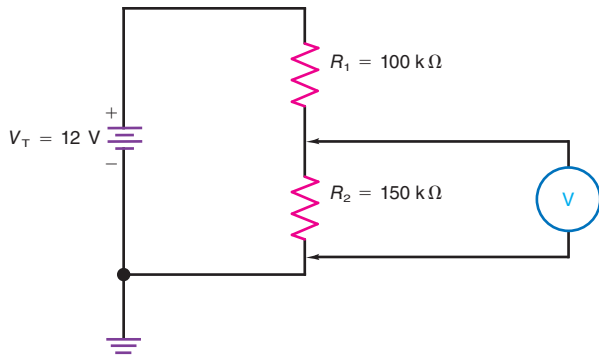

Figure 12-24
- 12.8 Refer to Fig. 12-24. (a) Calculate the dc voltage that should exist across R_2 without the voltmeter present. (b) Calculate the dc voltage that would be measured across R_2 using a $10 \text{ k}\Omega/\text{V}$ analog voltmeter set to the 10-V range. (c) Calculate the dc voltage that would be measured across R_2 using a DMM having an R_V of $10 \text{ M}\Omega$ on all dc voltage ranges.